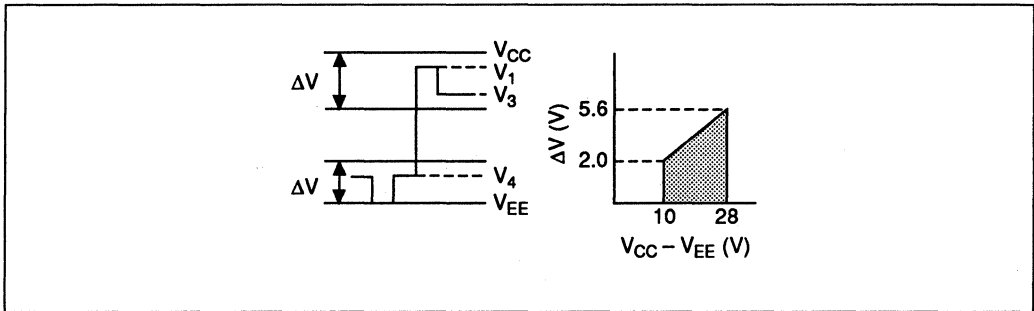

Figure 3 Relationship between Driver Output Waveform and Level Voltages
- Describes the voltage range for the liquid-crystal drive level power supply. A voltage near V_{CC} is supplied to V_1 and V_3 . A voltage near V_{EE} is supplied to V_4 . Use within the range of ΔV for each. These ranges should be set so that the impedance ROM of the driver output obtained is stable. Note also that ΔV depends on the power supply voltage ($V_{CC} - V_{EE}$). See figure 3.
2. Describes the voltage range for the liquid-crystal drive level power supply. A voltage near V_{CC} is supplied to V_1 and V_3 . A voltage near V_{EE} is supplied to V_4 . Use within the range of ΔV for each. These ranges should be set so that the impedance ROM of the driver output obtained is stable. Note also that ΔV depends on the power supply voltage ($V_{CC} - V_{EE}$). See figure 3.